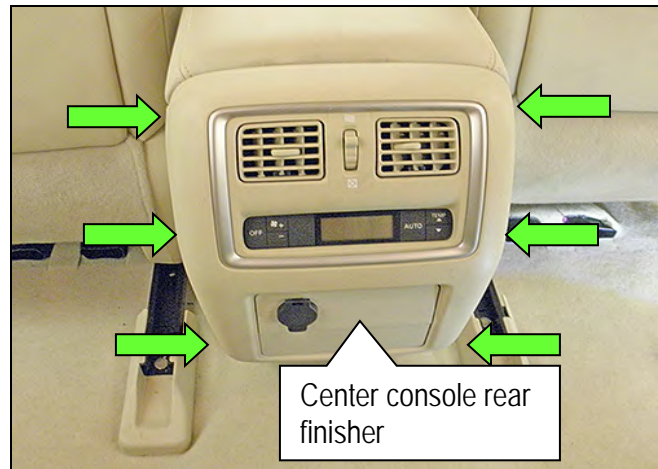

Figure 26B
- Six hidden clips (Figure 26B).